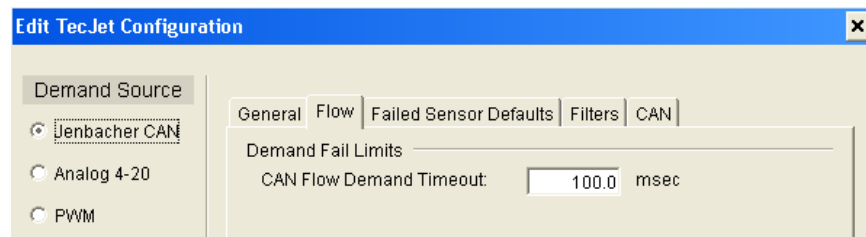

Figure 5-10a. Edit TecJet Configuration, Flow (CAN Demand)
- Edit TecJet Configuration, Flow (Figure 5-10a, 10b, 10c)